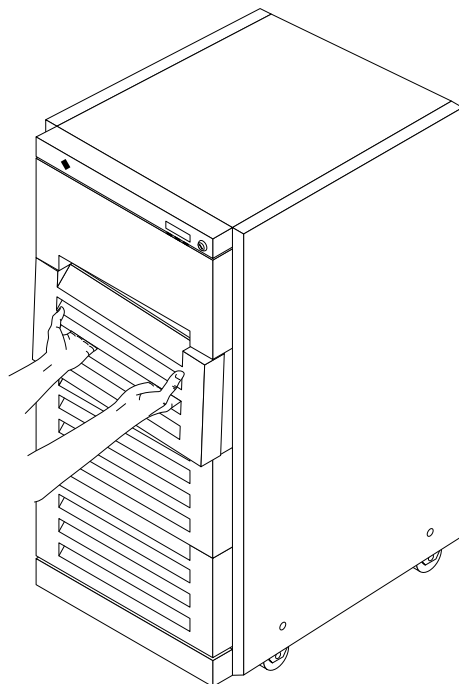

Figure 1-2 Removing the Vented Front Panels
- 1. Grasp the panel under the vent at one end and pull it outward approximately 1 inch (2-3 centimeters) to disengage the ball studs. See Figure 1-2.**